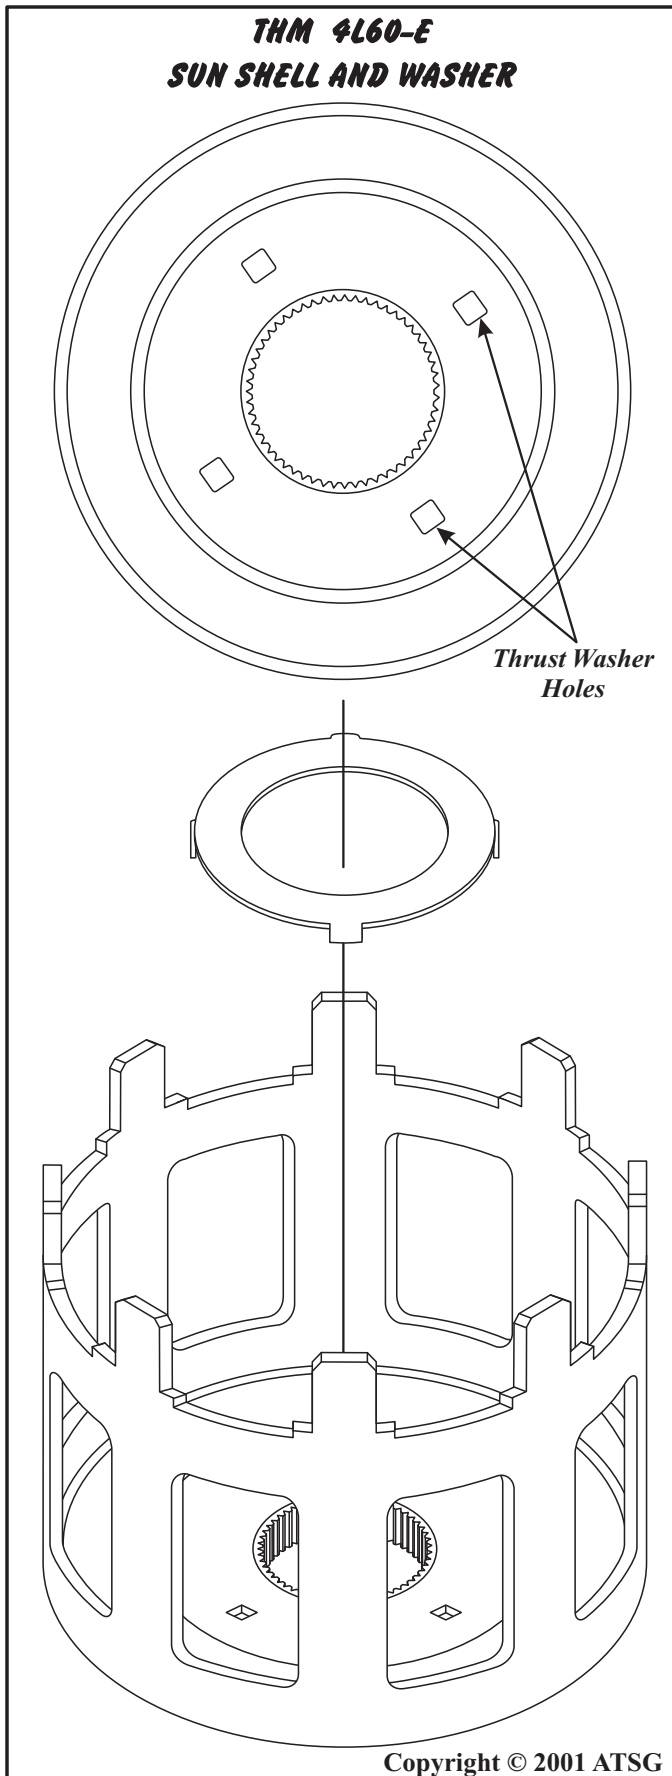

Figure 83
CHANGE: Beginning at the start of production for model year 2001, General Motors introduced a new transmission designated THM 4L60-EHD with many engineering changes. Currently this unit is found in all 2001 Cadillac Escalade and any vehicle with 6.0L engine or larger, that was previously equipped with the THM 4L60-E transmission. One of the changes includes a new design sun gear shell and thrust bearing to replace the previous design washer, as shown in Figures 83 and 84.
- (1) SUN GEAR SHELL - The holes in the sun shell for the previous thrust washer have been eliminated, as shown in Figures 83 and 84, to accommodate the new thrust bearing.